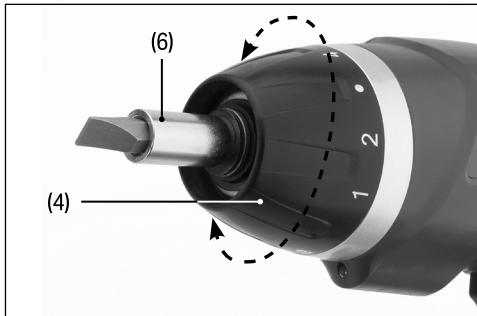

Fig. 4
1. Press the trigger (5) to activate the screwdriver.
- a. Clockwise rotation - Stop the screwdriver and push switch (2) to the left.
- b. Anticlockwise rotation - Stop the screwdriver and push switch (2) to the right.
7.2 Installing the Screw Bits (Fig.4)